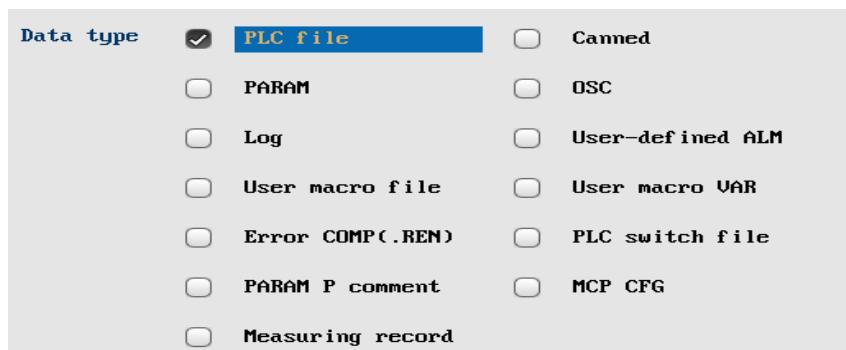

Figure 1.3.2 Select a file type to back up
3. Select the type of files to back up as required, e.g. **PARAM**, **PLC file** (see Figure 1.3.2).
3. Select the type of files to load as required, e.g. **PARAM, PLC file** (see Figure 1.3.2).